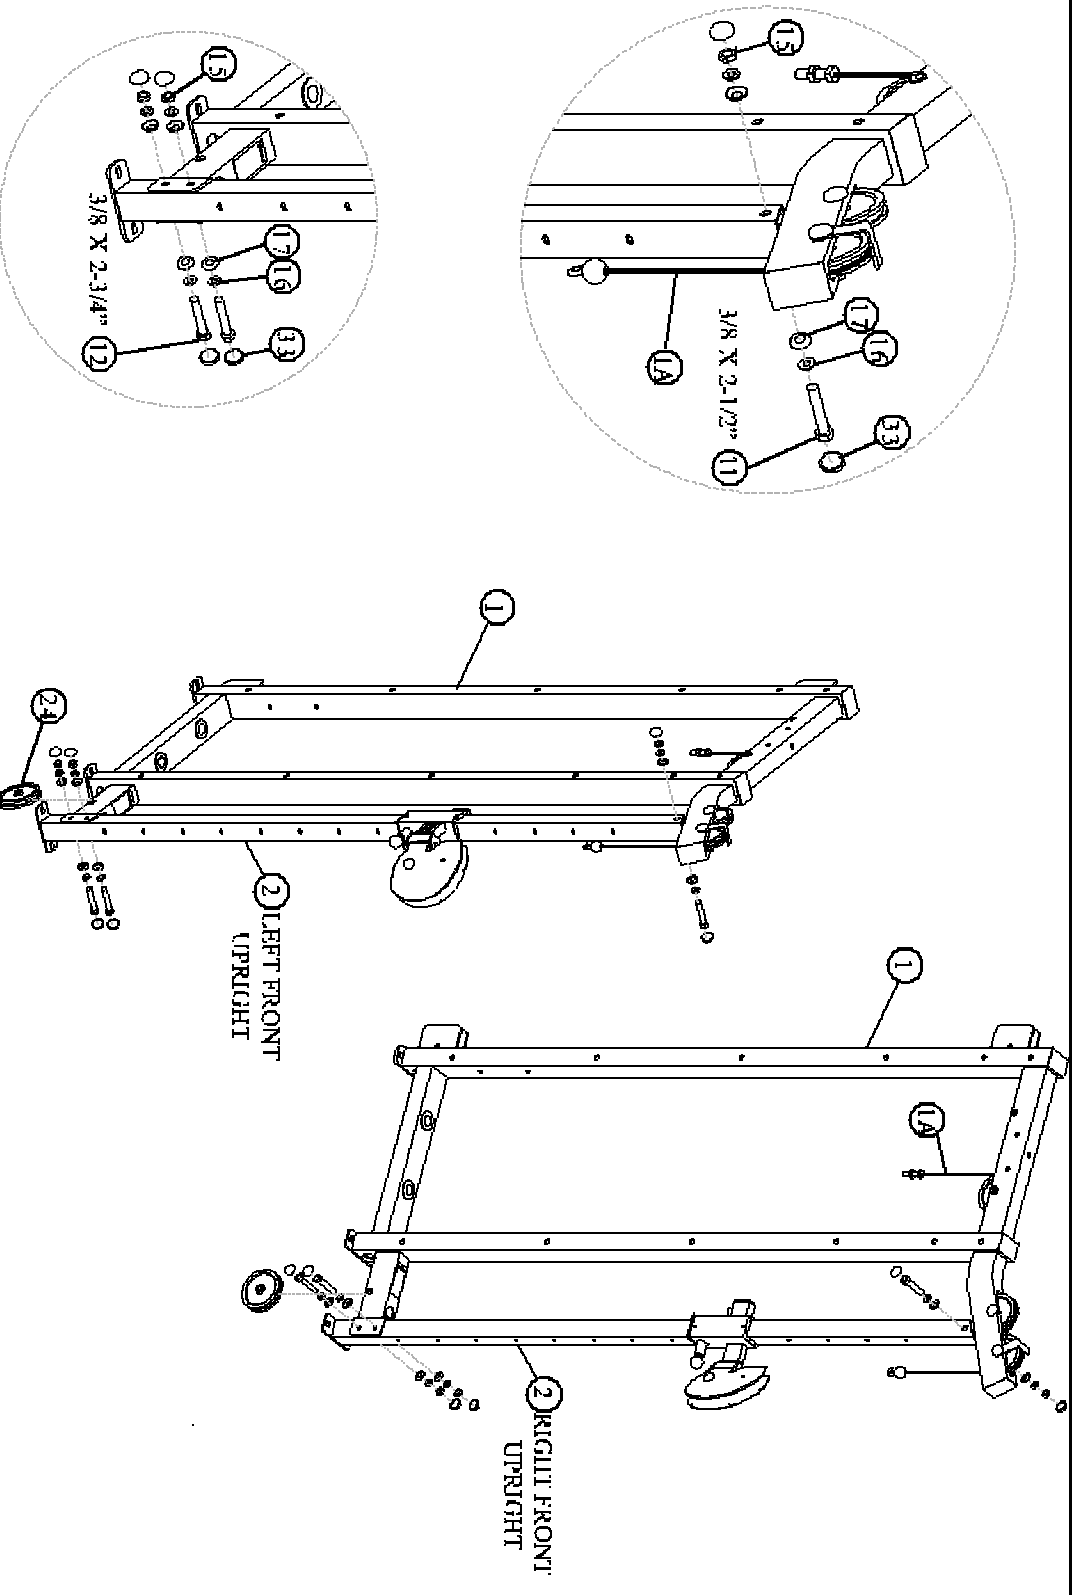

FIGURE 2
- **SECURELY** assemble the **LEFT FRONT UPRIGHT (2)** to the top and the bottom of the **TOWER (1)** using six **RII CAPS (33)**, one **3/8 X 2-1/2" BOLT (11)**, two **3/8 X 2-3/4" BOLTS (12)**, six **3/8" SAE WASHERS (16)**, six **3/8" RH WASHERS (17)** and three **3/8" LOW HEIGHT LOCK NUTS (15)** as shown in **FIGURE 2**.
- **REPEAT** the above step to assemble the **RIGHT FRONT UPRIGHT (2)** to the **TOWER (1)**
• **NOTE:** Insert one **4-1/2" PULLEY (24)** into the bottom slot of both **TOWERS (1)** as shown. These pulleys will be assembled after the cable is routed.